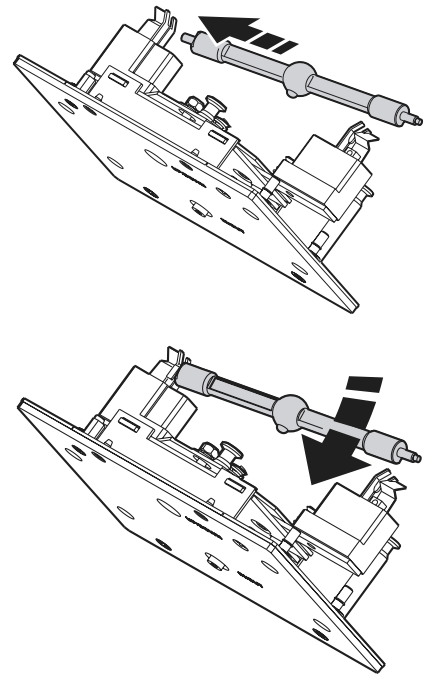

Figure 3: Lamp insertion
- 4 With the nipple on the replacement lamp facing back as shown in Figure 3, insert the left pin into the socket. Push down on the right-hand spring and snap the pin into place.